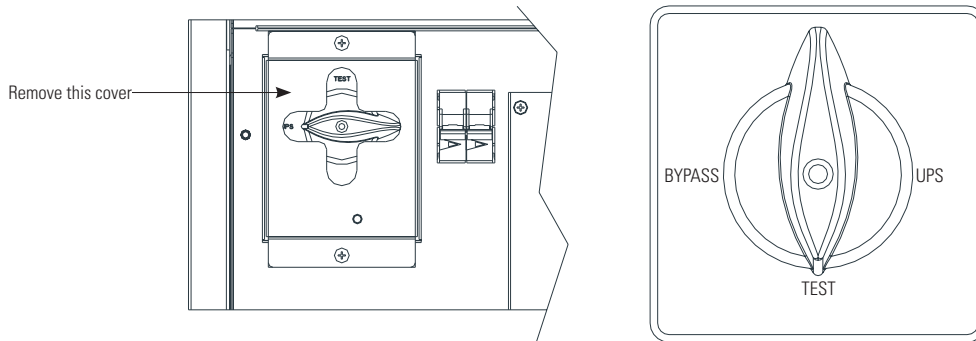

Figure 6-8. 20-40 kVA Optional internal Maintenance Bypass switch arrangement
2. Loosen the screws that fix the cover over the maintenance bypass switch and slide the cover to the right. This action will signal the UPS to transfer to static bypass. Refer to Figure 6-8 for switch arrangement.